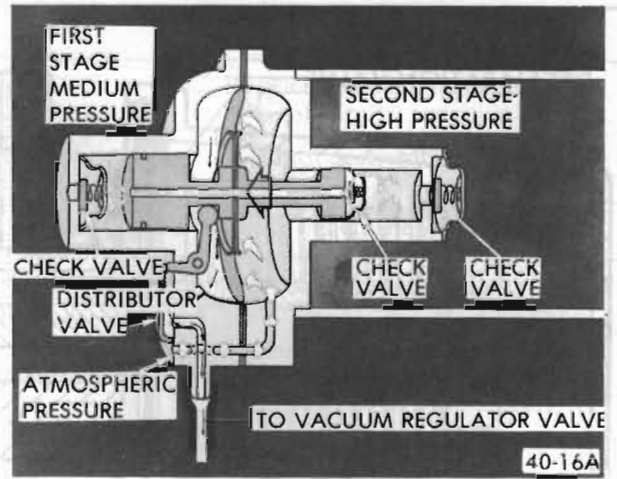
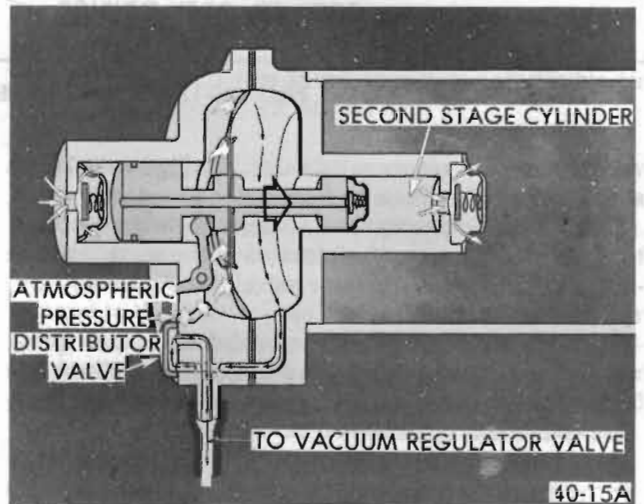

Figure 40-16 - First Stage Compression Stroke
Figure 40-17 - Second Stage Compression Stroke
b. The compressor is a two-stage, vacuum actuated type, requiring no lubrication. See Figure 40-14. High pressure air is supplied to the reservoir tank by the second stage of the two-stage compressor. The first stage intake stroke draws air at atmospheric pressure through a one way check valve located in the end of the first stage housing under the first stage housing cover. See Figure 40-15. On the first stage compression stroke, the intake valve is closed and the oneway check valve in the second stage end of the piston is opened. This allows the air from the first stage cylinder to flow through the hollow piston into the second stage cylinder for high pressure compression. See Figure 40-16. The second stage compression stroke closes the check valve in the piston and opens the check valve in the end of the second stage housing. See Figure 40-17.